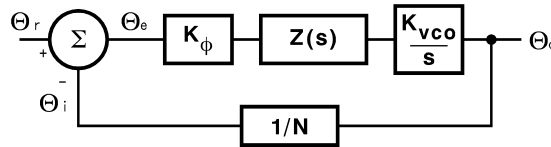
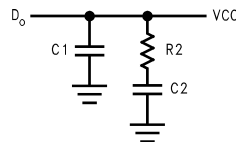

Figure 18. PLL Linear Model
Figure 19. Passive Loop Filter
A linear control system model of the phase feedback for a PLL in the locked state is shown in Figure 18. The open loop gain is the product of the phase comparator gain (K_ϕ), the VCO gain (K_{VCO}/s), and the loop filter gain $Z(s)$ divided by the gain of the feedback counter modulus (N). The passive loop filter configuration used is displayed in Figure 19, while the complex impedance of the filter is given in Equation 2.